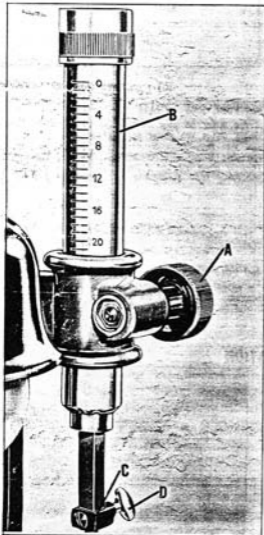

Fig. 12
6. Loosen knurled knob (A) Fig. 12, and slide graduated tube down until blade enters 1/2 inch between jaws of upper chuck (C).
7. Tighten thumb screw (D) Fig. 12, of upper chuck, to hold blade in place.
8. Raise graduated tube (B) Fig. 12, until blade has correct tension and retighten knurled knob (A). NOTE: Operator can determine, from experience, the proper tension for various blades as they are used for various work, and can record these tensions on the tube for future work using the same blades and materials.